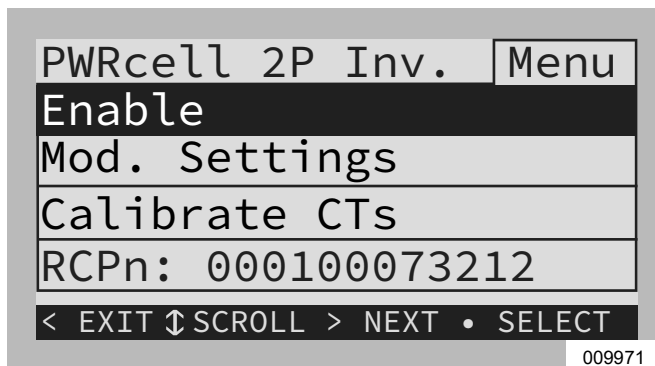

Figure 3-10. Enabling and Disabling Devices (2 of 3)
- See Figure 3-10. Highlight Enable and press the center button.